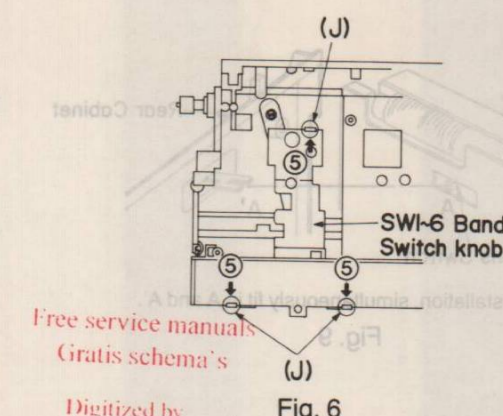

Fig. 6
*1. Remove SW1-6 Band Switch Knob by removing 3 ribs of the chassis as shown in Fig. 6. At this time, be careful not to loose the steel ball and the spring.